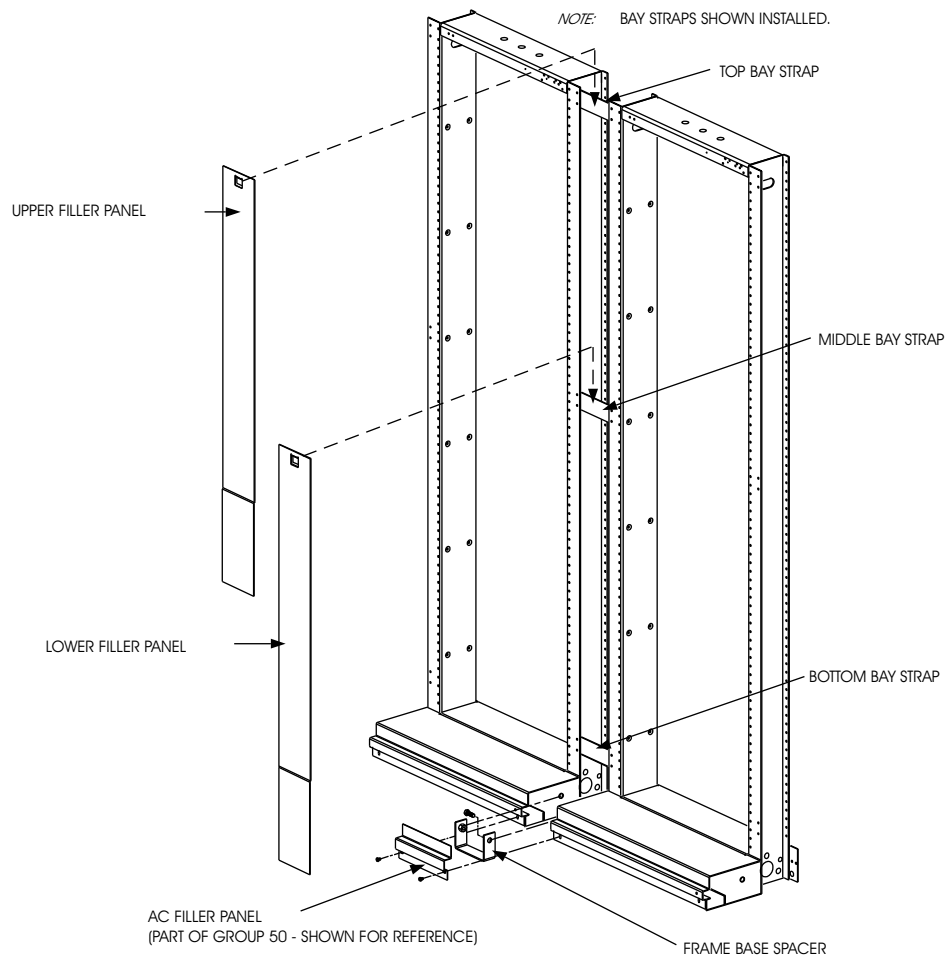

Figure 1. Installing Group 51, 5-Inch (127 mm) Bay Spacing Hardware
1. Fasten frame base spacer to adjacent bay frames with two 3/8-inch -16 by 1-inch (9.52 mm by 25 mm) long screws (see Figure 1).